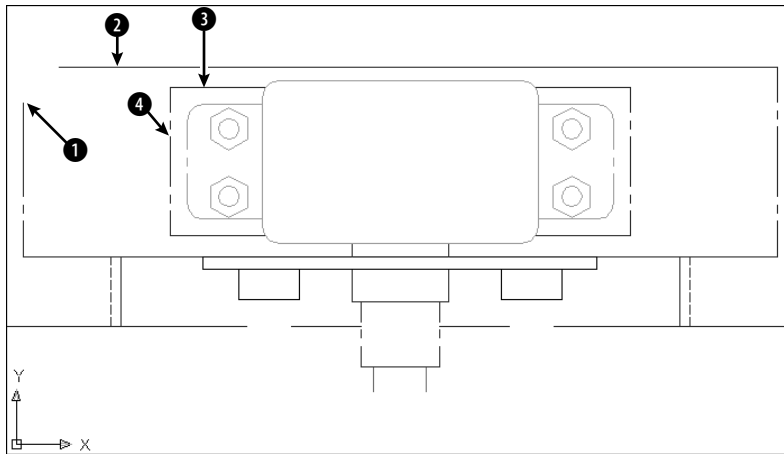
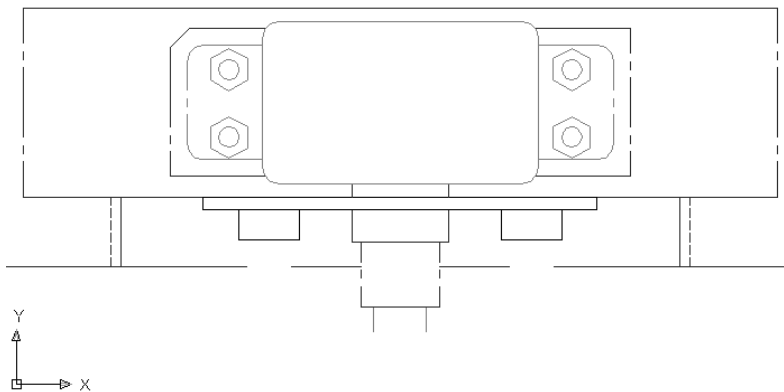

Figure 10-30: A mechanical drawing showing a small section of a “porcupine” mixer.
Figure 10-31: The edited drawing after using the CHAMFER command.
2. Save the file as ab10-10.dwg in your AutoCAD Bible folder. This drawing is a very small section of a "porcupine" mixer, as shown in Figure 10-30.
3.  Choose Chamfer from the Modify toolbar. CHAMFER states the current mode and distances. At the Select first line or [Undo/Polyline/Distance/Angle/Trim/Method/Multiple]: prompt, pick ① in Figure 10-30. At the Select second line: prompt, pick ②. (If the current distances are not zero, press Shift as you pick ②.) The command chamfers the two lines to make a corner. (If this doesn't work, you may have the Trim option set to No Trim. Change the setting to Trim and try again.)
5. At the **Select first line or [Undo/Polyline/Distance/Angle/Trim/Method/mUltiple]:** prompt, pick **3** in Figure 10-30. At the **Select second line:** prompt, pick **4**. The command chamfers the two lines, as shown in Figure 10-31.